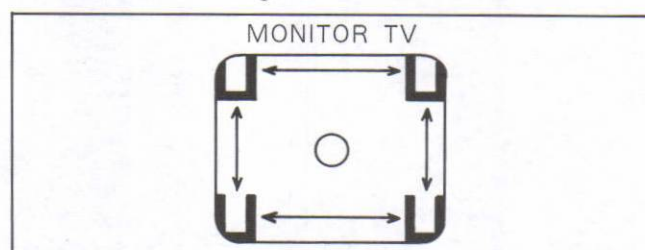

Fig. C8-2
- Blind the lighting using frosted glass or acryl plate to diffuse incoming light. And also put a corrugated cardboard which inside is cut to "U" shape as shown in Fig. C8-2.
- High Speed Shutter "ON" and "OFF" both mode, confirm that the monitored picture does not contain the Blooming even if the camera moves as shown in Fig. C8-2.